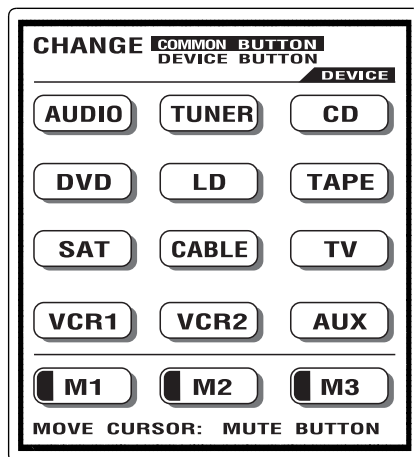

Figure 17
2. If you wish to change the functional buttons, press the device that contains the functional button you wish to change and then select the functional button. If you wish to change the device buttons in the favorite device page, press the MAIN button in main menu and then select the device button you wish to change. Refer to figure 17.